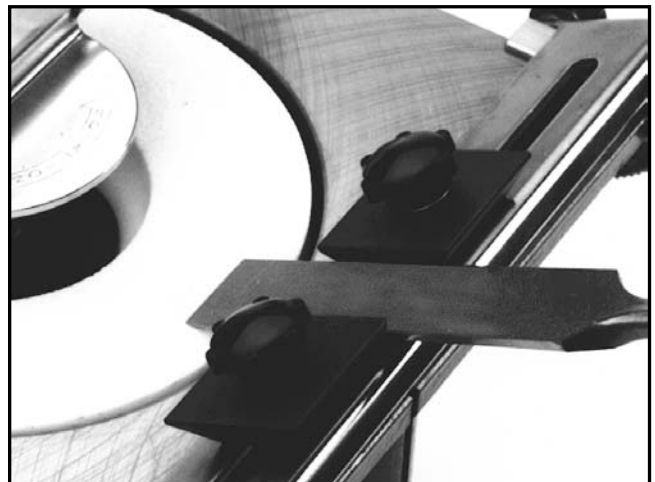

Figure 3. Stationary clamps in place.
The Model G2790 features two stationary clamps that can be attached directly to the pivot plate. **See Figure 3.** The clamps are held in place by compression brackets. To attach the stationary brackets:
3. Place the two tool clamps on the top of the pivot plate as shown in **Figure 3**. Attach using the tool clamp knobs and washers on top and the special lock nuts underneath the pivot plate.